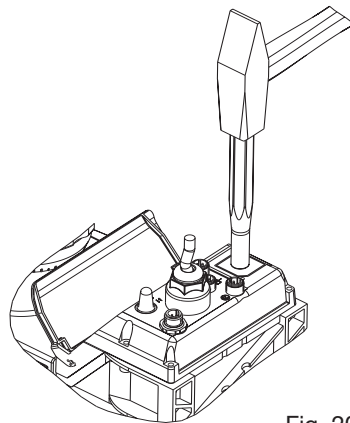

Fig. 20
- ▶ Place the S3Ca on a firm surface with the relay opening press-out section at the top (see fig. 20)